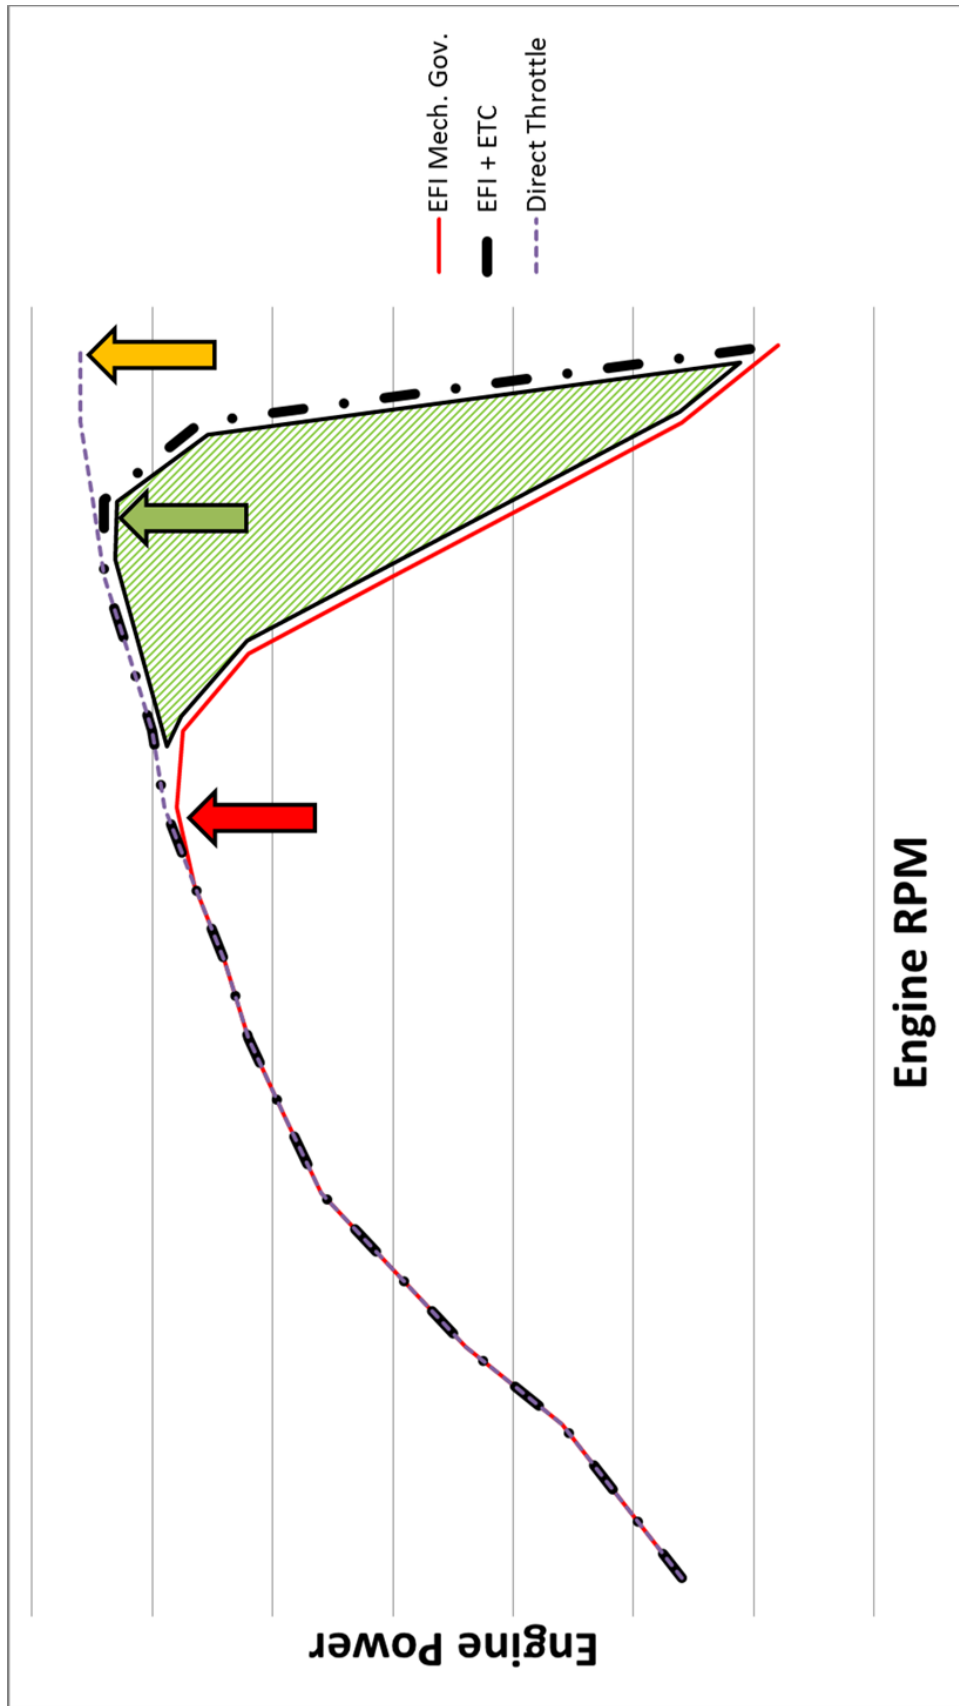

Figure 1: Direct Throttle vs. Mech. Gov. Droop vs. ETC Droop
- **Direct Throttle (WOT) horsepower curve** – this is identified by the blue dotted power curve in Figure 1. Peak horsepower occurs at maximum engine operating speed noted by the orange arrow in Figure 1.
- **Mechanically controlled throttle body system** – this is identified by the solid red line in Figure 1. Peak horsepower occurs where the governor droop meets the power curve and is noted by the red arrow in Figure 1. A shallow droop curve slope and rolling transition to the power curve limit the overall performance and response of the mechanical system.
- **Electronically controlled throttle body system** – This is identified by the black dashed line in Figure 1. Peak horsepower occurs where the ETC's governor calibration transitions to the power curve and is identified by the green arrow in Figure 1. The governor calibration allows for a much tighter droop curve slope which translates into higher peak power availability. The steeper slope and quicker transition to the power curve also provide quicker and more stable load acceptance. The green dashed area on Figure 1 represents the additional "usable" power the ETC will offer over a traditional mechanical controlled system.